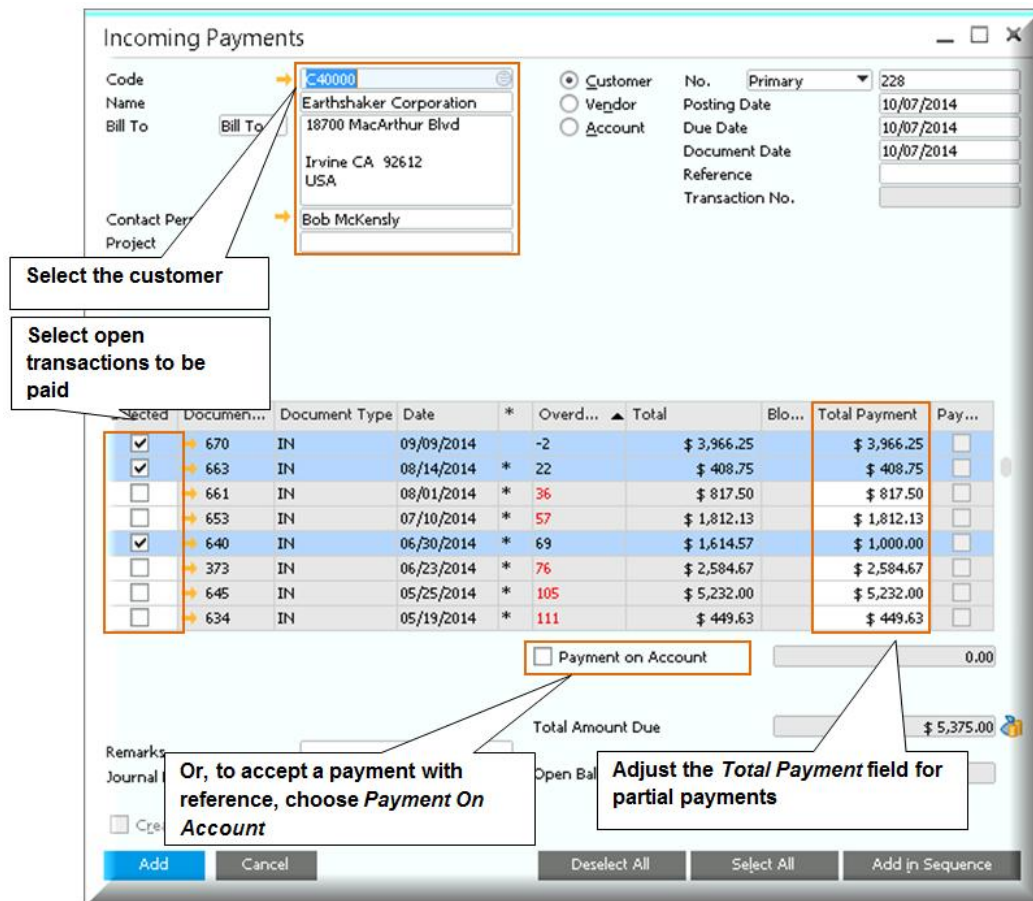

Figure 3-12: Incoming Payments window
1. Go to the Banking → Incoming Payments → Incoming Payments window shown in Figure 3-12